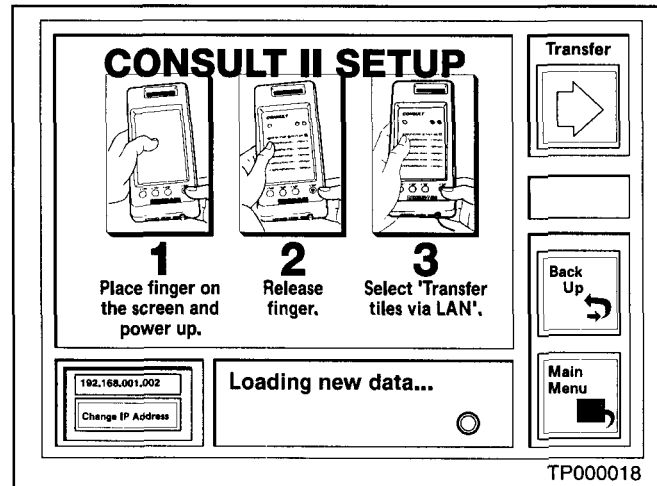

Figure 12
11. Click "Transfer." Data transfer will take about 1 minute and the progress of the transfer is displayed on the ASIST PC screen (see Figure 12). Wait until the data transfer is complete (see **CAUTION**, below).